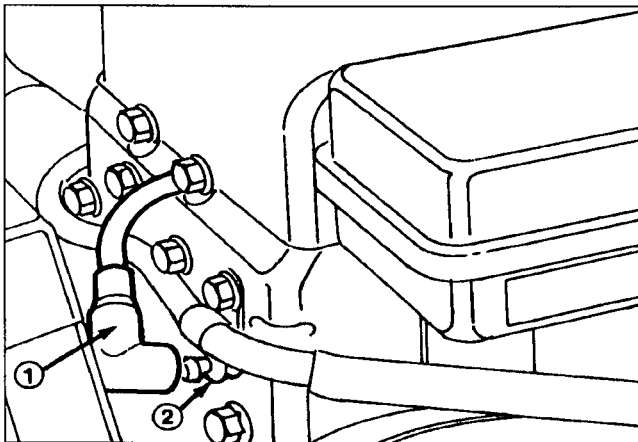

Figure 13
To prevent accidental starting of the engine, while performing maintenance, shut engine off and remove key from ignition switch. Also, pull wire off spark plug (Fig. 13). Make sure wire does not contact plug accidentally.
1. Remove wire from spark plug (Fig. 13).